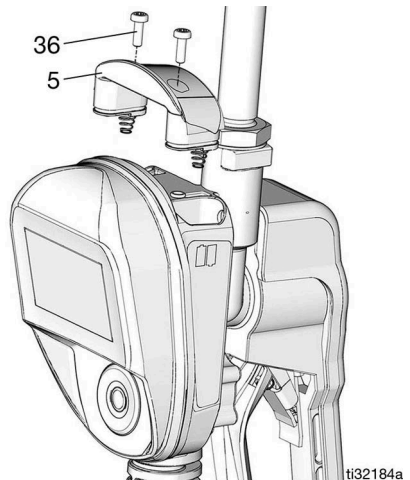

FIG. 40
5. Replace the cover (5) and screws (36). Do not over tighten the screws (FIG. 40).